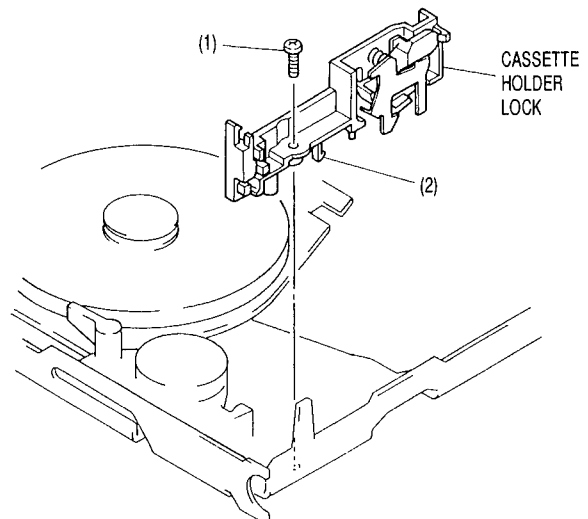

Fig. 3-38
- 1) Remove 1 screw (1). (See Fig. 3-38)
- 2) Release 1 tab (2) and remove the cassette holder lock.